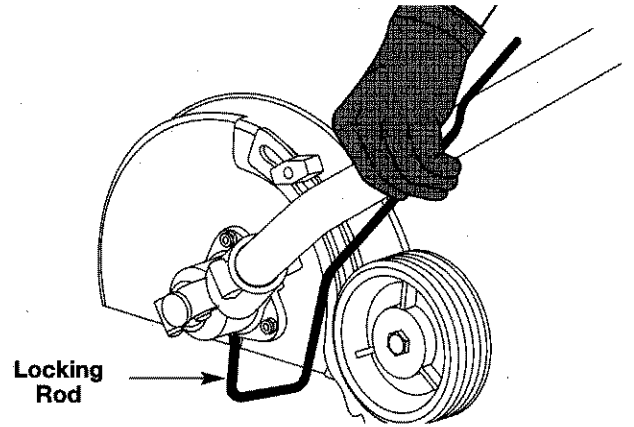

Fig. 31
2. Hold the locking rod in place by grasping it next to the boom of the unit (Fig. 31).